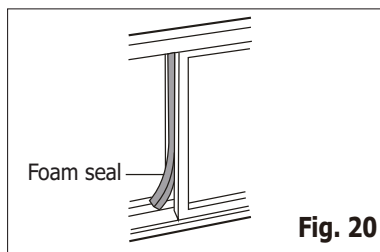

Fig. 20
5. Cut the foam seal to an appropriate length and seal the open gap between the sliding sash and outer window sash, as shown in Fig.20.